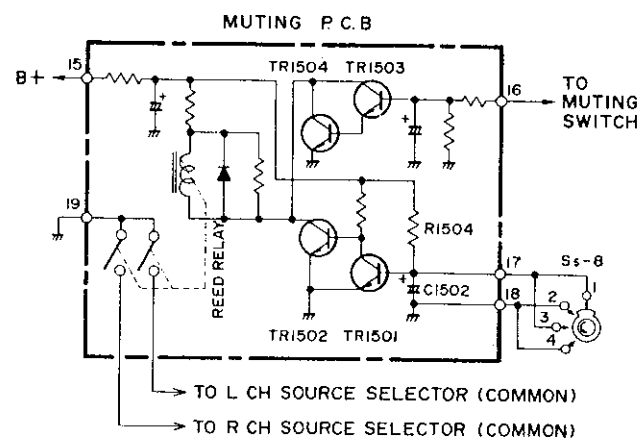

Figure 40
The switch Ss-8 is a shorting type, goes through a short-circuit condition when turning from 1 (AM) to 2 (FM), etc. (it is momentarily grounded). This turns TR1501 off and TR1502 on. Thus, REED Relay is activated and output is cut off. The time constant of R1504 and C1502 allows the cut off condition to last for about one second (before C1502 charges up to a point where TR1501 turns on again, etc.). (Figure 40)